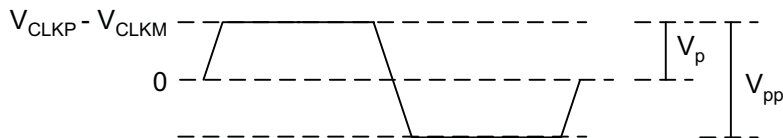

Figure 3. Clock Amplitude Definition Diagram
- (6) Refer to Figure 3 for the definition of clock amplitude.